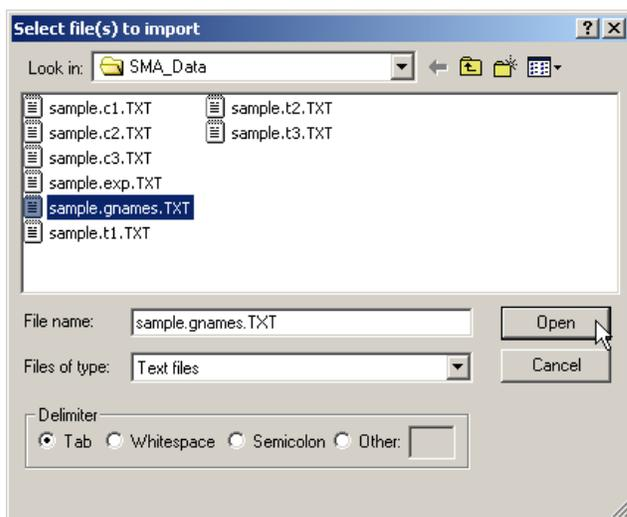

Figure 12 Select the Chip Design File for your expression data
2. In the Select file(s) to Import dialog box (Figure 12), navigate to the folder containing the chip design file to be loaded.